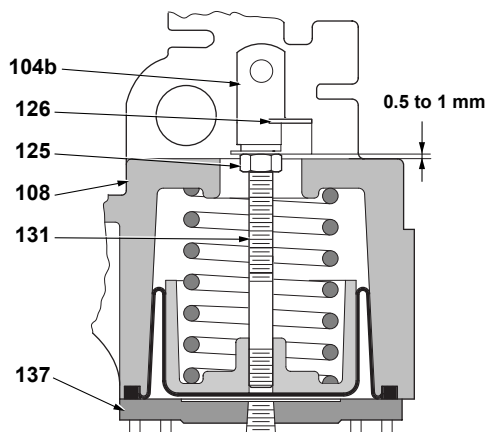

Figure 14 - Piston rod clevis (104b) adjustment
4.1.1 Adjusting the piston rod clevis on the VariPak 28001 single-lever valve (Figures 14 and 26)
VariPak 28002 adjustable-C_v valve (Figures 14 and 27)